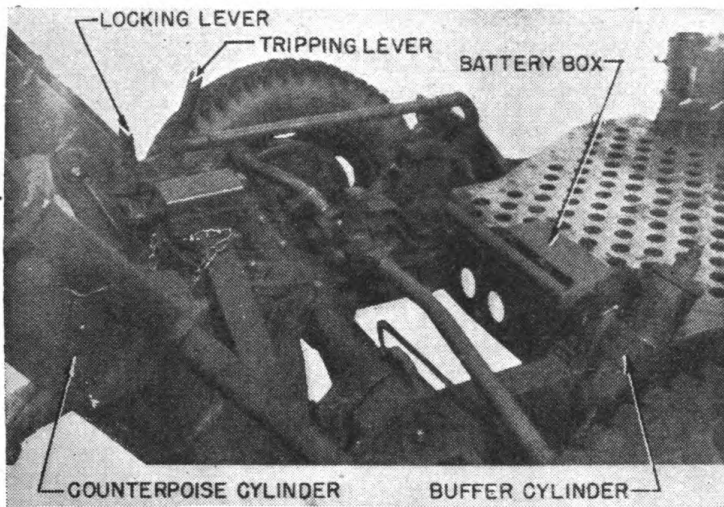

FIGURE 22.—Front of 37-mm gun carriage.
Q. Point out the various parts shown in figure 22. A. See figure 22.